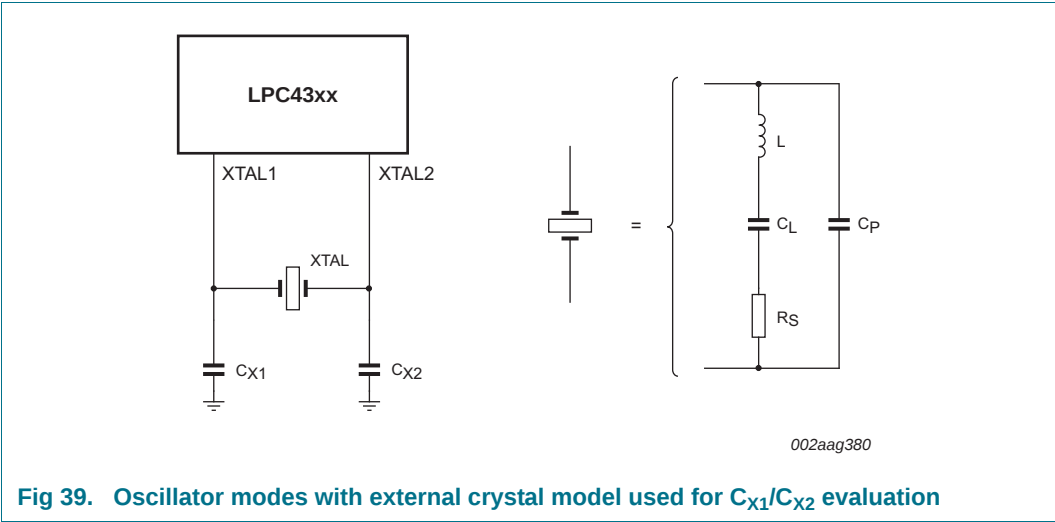

Fig 39. Oscillator modes with external crystal model used for CX1/CX2 evaluation
- External components and models used in oscillation mode are shown in Figure 39, and in Table 37 and Table 38. Since the feedback resistance is integrated on chip, only a crystal and the capacitances  $C_{x1}$  and  $C_{x2}$  need to be connected externally in case of fundamental mode oscillation ( $L$ ,  $C_L$  and  $R_s$  represent the fundamental frequency). Capacitance  $C_P$  in Figure 39 represents the parallel package capacitance and must not be larger than 7 pF. Parameters  $F_c$ ,  $C_L$ ,  $R_s$  and  $C_P$  are supplied by the crystal manufacturer.